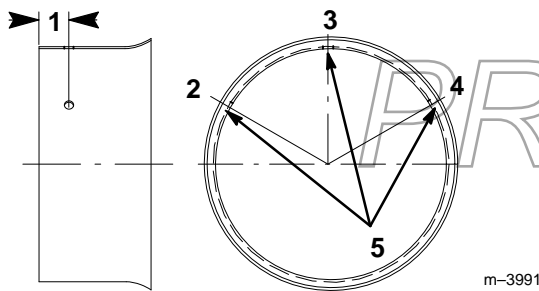

Figure 2
- A. Remove (4) locknuts from the front of the blower housing.
- B. Remove (2) 5" capscrews from the upper part of the housing.
- C. Remove (1) 3/8 x 3/4" capscrew from the inside of blower chute and slide the chute up and away from lower blower housing.
2. Mark, center punch, and drill (3) 9/32" (7.5 mm) holes in the blower housing, as shown, for mounting the guides (Fig. 2).